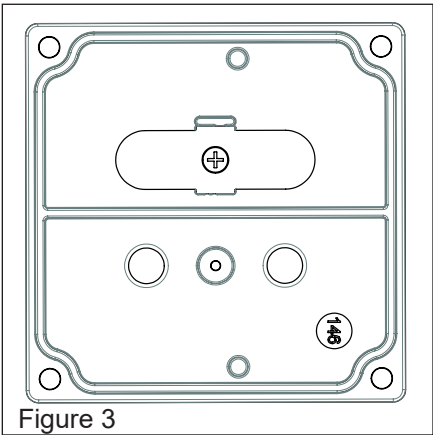

Figure 3
STEP 8. Install the new head gasket, seating it firmly into the groove with your finger or blunt object. See figure 3. Set aside.